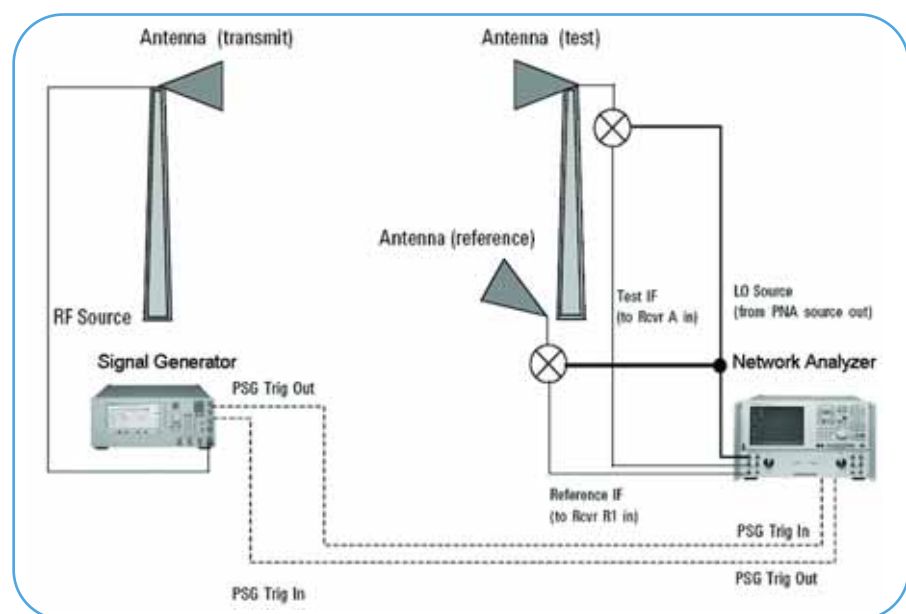

Fig. 2. Instruments in Close Proximity
Figure 2 is a simplified example of a system setup for making far-field antenna measurements. The Signal Generator (SG) drives a stationary source antenna, and a Network Analyzer (NA) is connected to a stationary reference antenna and movable test receiver antenna[2]. The NA performs ratio measurements between its two antennas to compensate for various terrain effects between the transmitter and receiver.
each box has a list of operations it steps through for each antenna position. Rather than sending programming commands for every step and configuration, the *List* is used to select frequency, amplitude and waveform type for the SG, and the NA's list consists of measurement type and/or range. Instruments step through the list by triggering each other. For Fig. 2, the SG selects the first *List* item of frequency, amplitude and waveform type, and it then sends a TTL *Trigger* to the NA to make the measurement. When the NA has completed its measurement, it triggers the SG to go to the next *List* item. The list may have 100's of points. The measurement time in the NA can vary significantly dependent upon frequency range, so this asynchronous handshake is quite efficient and simplifies programming.